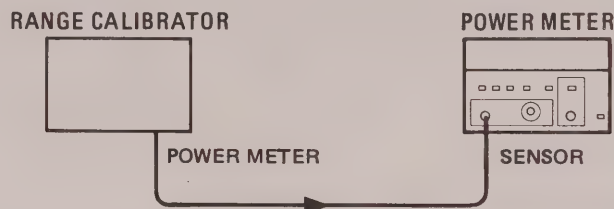

Figure 4-1. Zero Carryover Test Setup
3. Connect the equipment as shown in Figure 4-1.